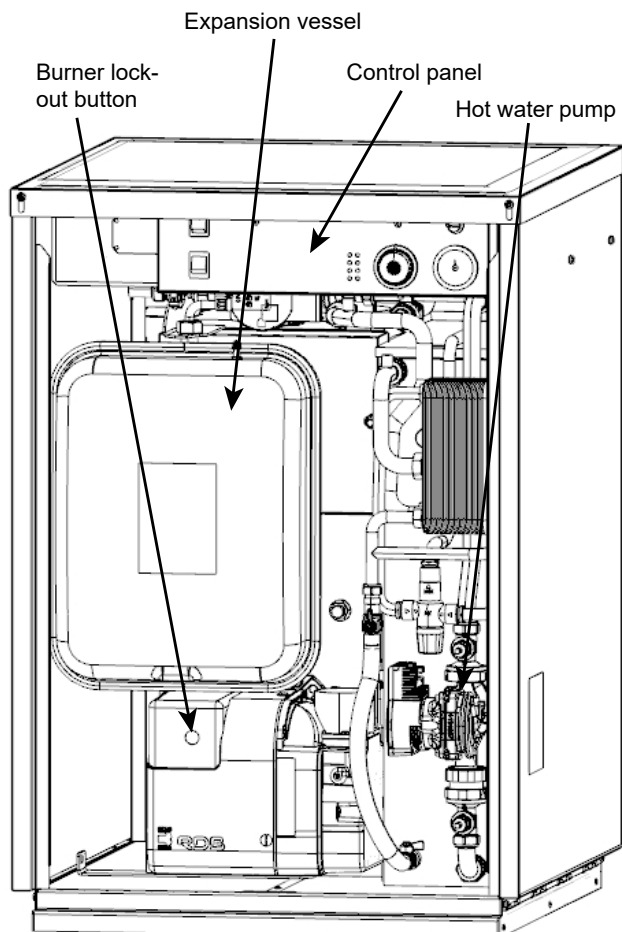

Figure 1-1: Boiler components
To gain access to the boiler controls, remove the front casing door by turning the handle at the bottom anti-clockwise, pulling the door out at the bottom and withdrawing it from the casing to reveal the boiler components and controls as shown in Figure 1-1.
5. Check if the burner 'Lock-Out' reset button on the burner body (refer to Figure 1-1 for location) is lit.
Refer to Figure 1-1 for the location of the control panel within the boiler casing and Figure 2-1 for the details of the control panel.